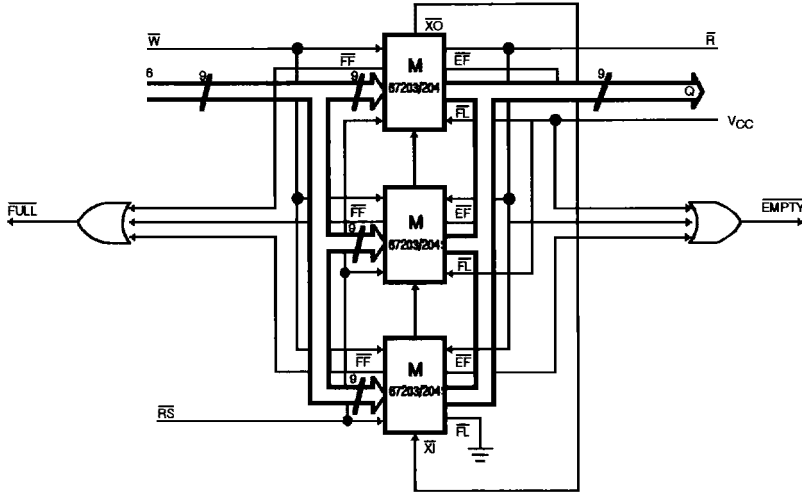

Figure 4 : Block Diagram of 6144 x 9 / 12288 x 9 FIFO Memory (Depth expansion).
The M 67203/204 can be easily adapted for applications which require more than 2048/4096 words. Figure 4 demonstrates Depth Expansion using three M 67203/204s. Any depth can be achieved by adding additional 67203/204.
1. The first device must be designated by connecting the First Load (FL) control input to ground.
3. The Expansion Out (XO) pin of each device must be connected to the Expansion In (XI) pin of the next device. See figure 4.
4. External logic is needed to generate a composite Full Flag (FF) and Empty Flag (EF). This requires that all EF's and all FF's be ORed (i.e. all must be set to generate the correct composite FF or EF). See figure 4.
5. The Retransmit (RT) function and Half-Full Flag (HF) are not available in the Depth Expansion Mode.
- 6. For depth expansion block see section on a Depth Expansion and Figure 4.